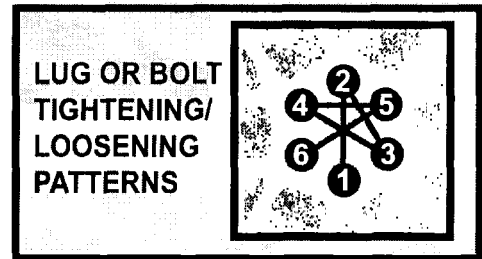

Figure 5
34. Place the wheels on the wheel mounting surface of the Hub and Drum Assemblies. Reinstall the wheel lug nuts, removed in Step 9, with the tapered end of the lug nuts toward the wheel. Tighten each lug nut by hand until the wheels are held against the wheel mounting surfaces. Lower the tires to the ground. Tighten the lug nuts to an initial 60 ft.-lbs. of torque and then to the final torque specification of 80-90 ft.-lbs. Follow the lug tightening sequence identified in Figure 5.